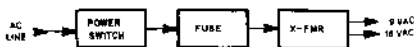

Fig. 7-1. Block diagram of frame assembly, Model 1540.
7.1.1 Frame Electrical Theory (Refer to Figs. 7-1 and 7-2)